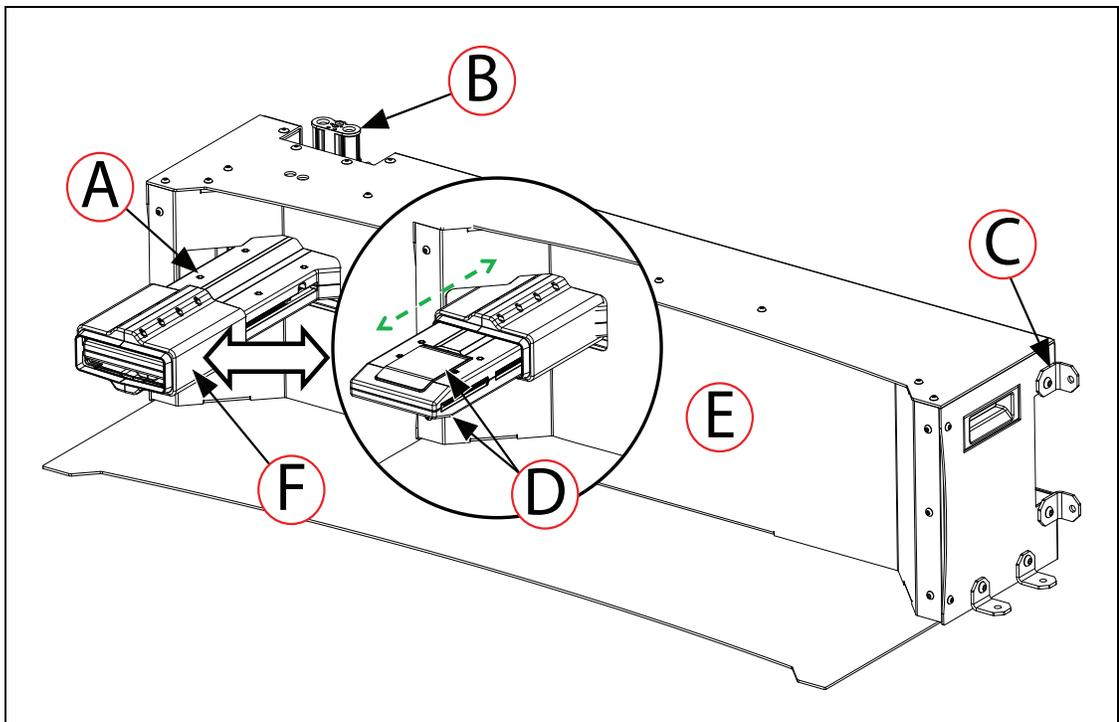

Figure 3-65. Docking Target - Features and Parts
- The docking target's power connector ((B) in Figure 3-65. can install either horizontally, or vertically. There is a groove on the back of the docking target that allows you to reach the power connector, and connect the power cord sideways from either side of the docking target. See: Figure 3-74.